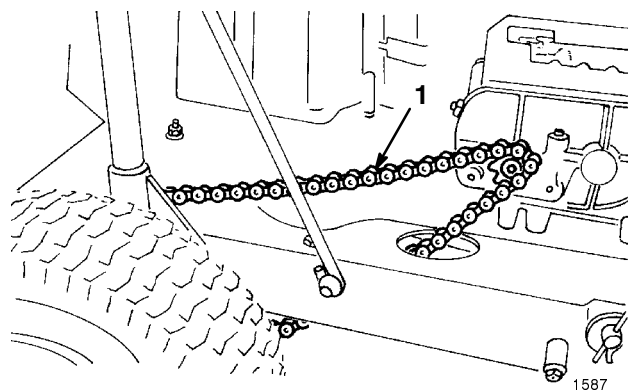
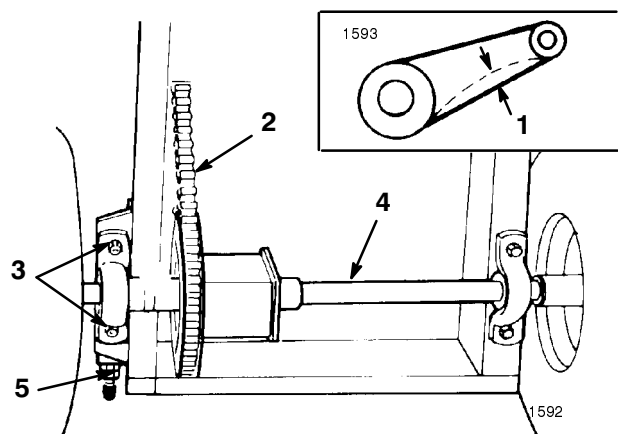

Figure 23
Figure 24
2. Check deflection of drive chain by lifting up and pressing down on chain with moderate pressure at mid span (Fig. 23). There should be 1/8 of an inch (3 mm) total deflection (Fig. 24). If deflection is not as specified, an adjustment is required—steps 3–13.
7. Loosen four flange nuts securing pillow blocks w/differential axle to the rider frame (Fig. 24).
8. Loosen rear jam nut on chain tensioner (Fig. 24).
11. Since axle must be parallel to rear of chassis, measure distance from center of pillow blocks to rear of chassis (Fig. 24). Difference between the two measurements must not exceed 1/8 inch. If difference exceeds 1/8 inch, axle is not parallel with chassis; therefore it must be readjusted.